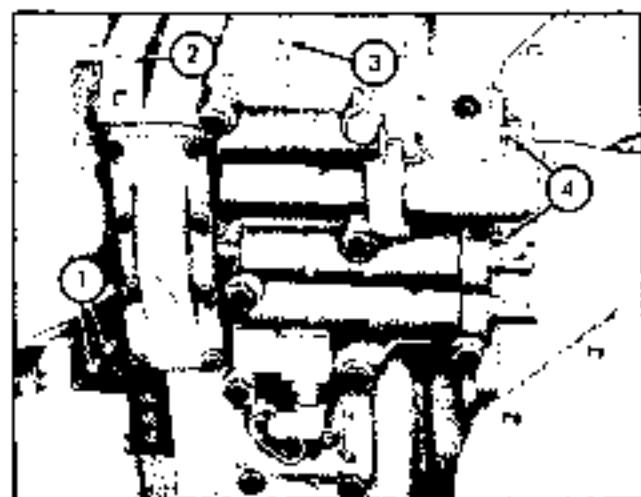

Fig. 1-27. Pressure Testing Ports
i. After assembly is complete, check converter charging pressure by installing a gage in opening of plug (2, figure 1-27).
j. Check HIGH and LOW shifting charging pressure at points of plugs (1, figure 1-27). Gage should read 95 to 105 PSI.
k. Check FORWARD and REVERSE shifting charging pressure at plugs (4, figure 1-27). Pressure should be 95 to 105 PSI.
l. Check pump charging pressure at plug hole (3, figure 1-27) on top of transmission. Reading is to be 130 to 140 PSI.